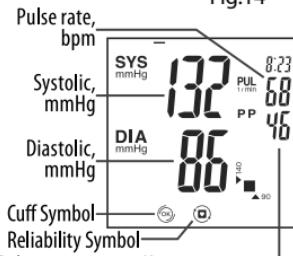

Fig.15
6. Air is released from the cuff and measured values are displayed as measurement completes (fig.15).